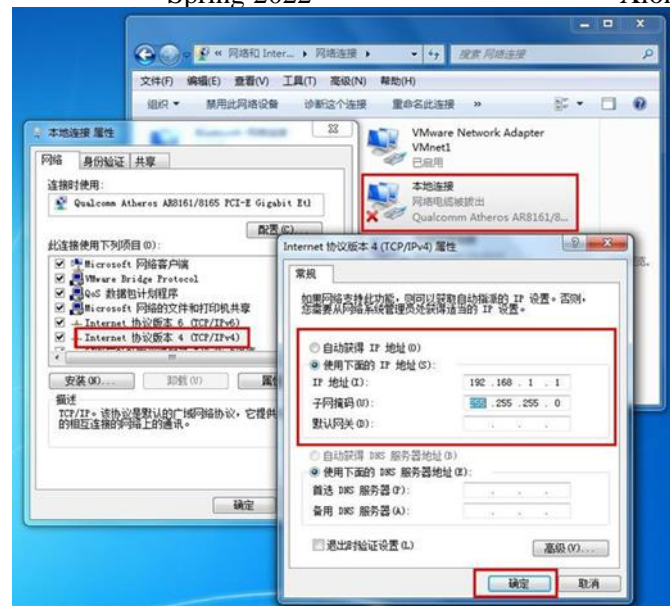

Figure 4. Manual configuration of PC IP
- 3) As shown in Figure 4, the automatic acquisition IP address is changed to a manual configuration and parameter settings are made.